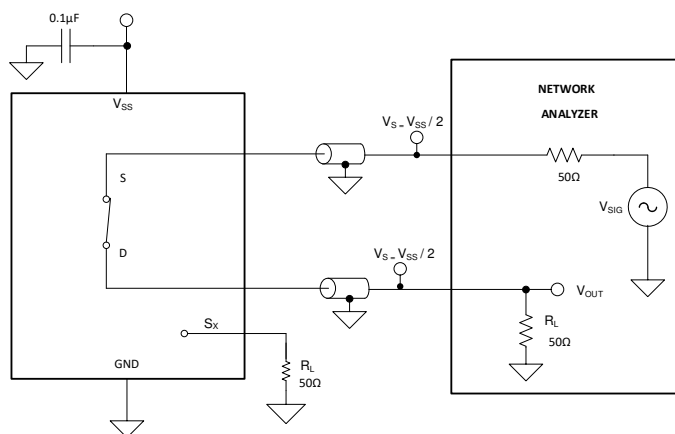

图 7-11. Bandwidth Measurement Setup
Bandwidth is defined as the range of frequencies that are attenuated by less than 3 dB when the input is applied to the source pin (Sx) of an on-channel, and the output is measured at the drain pin (D) of the device. 图 7-11 shows the setup used to measure bandwidth.